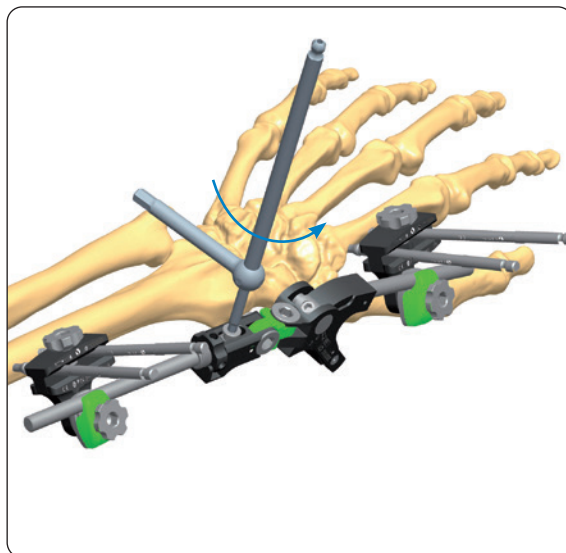

Fig. 27
- Loosen the Compression-Distraction Set Screw (**Fig. 27**)